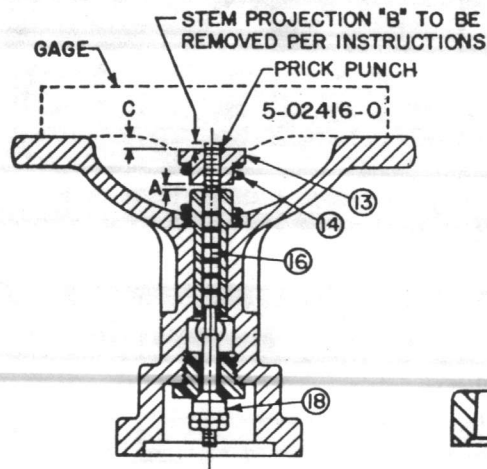

Fig. 7 — Valve Setting, Type D Pilot
1. Pilot — Fig. 7
- c. To install new Stem (16) omit Spring (14) and assemble other parts shown.
- d. Hold Valve Disc (18) tight against its seat and screw Pusher Plate (13) down until dimension "C" = $1\frac{1}{64}$ ".
- e. Grind off stem projection "B" flush with upper face of Pusher Plate (13)